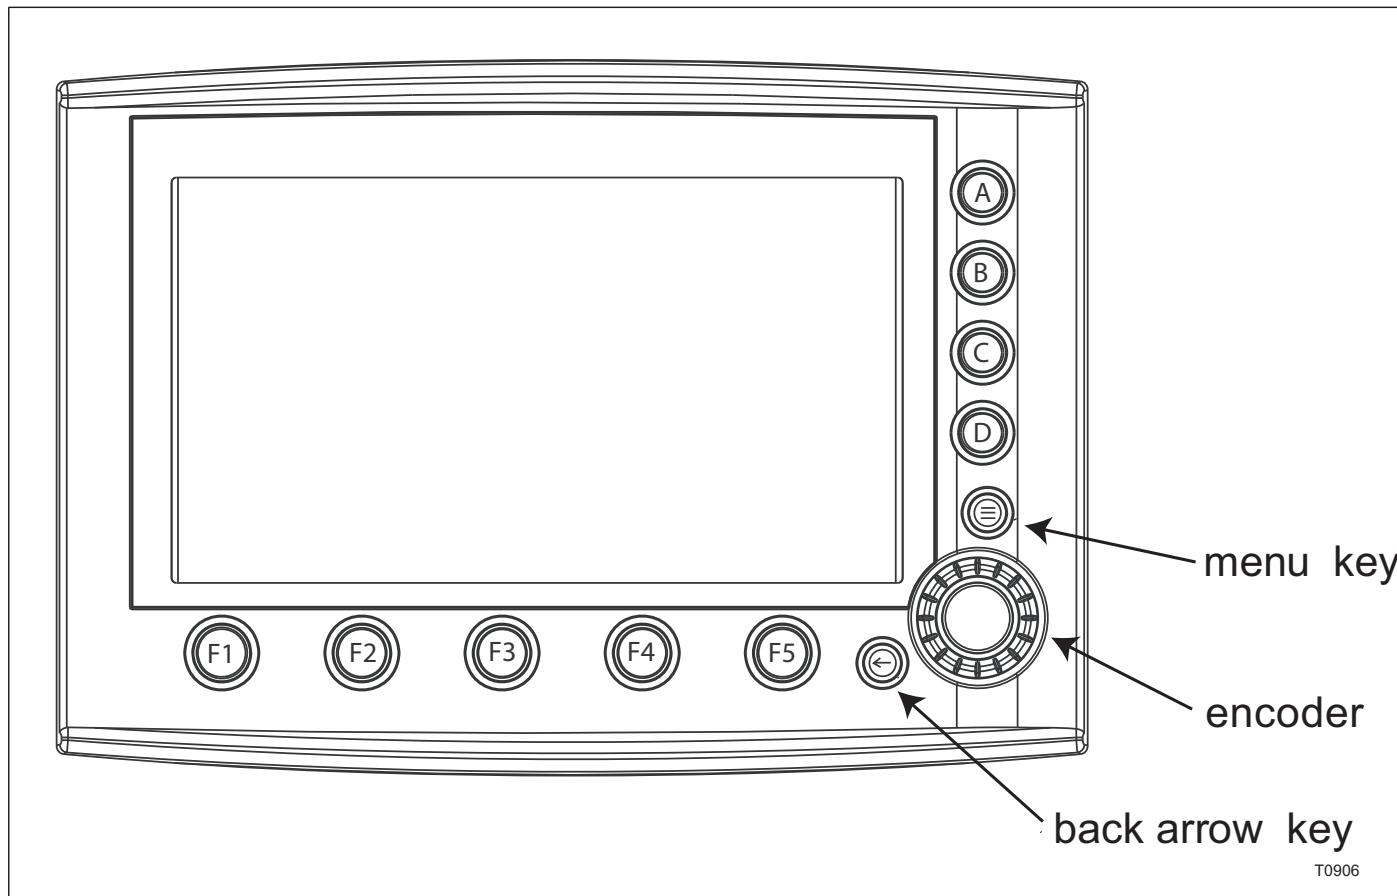

Figure 3: IQAN MDL display
**OFF** - Turn the ignition key to the "OFF" position to shut down the engine. Insert and remove the ignition key from this position only. See Figure 3.